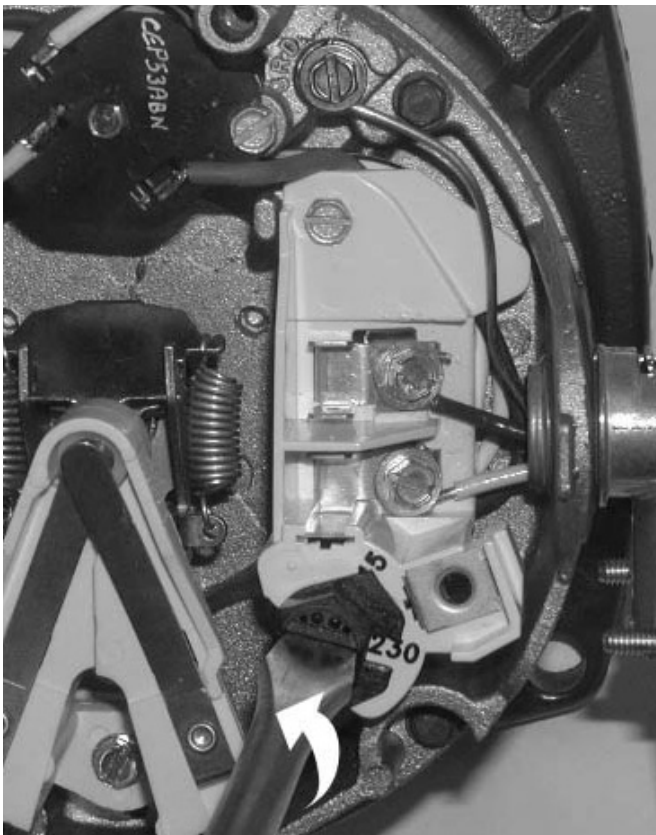

Figure 3 – Changing the Voltage Setting
Step 7. Connect current carrying conductors to terminals L1 and L2 under motor canopy. When replacing motor, check wiring diagram on motor nameplate against Figure 3. If the motor wiring diagram does not match either diagram in Figure 3, follow the diagram on the motor.
IMPORTANT: 115/230 Volt single phase models are shipped from factory with motor wired for 230 volts. If power supply is 115 volts, remove motor canopy and reconnect motor as shown in Figure 3. Do not try to run motor as received on 115 volt current.